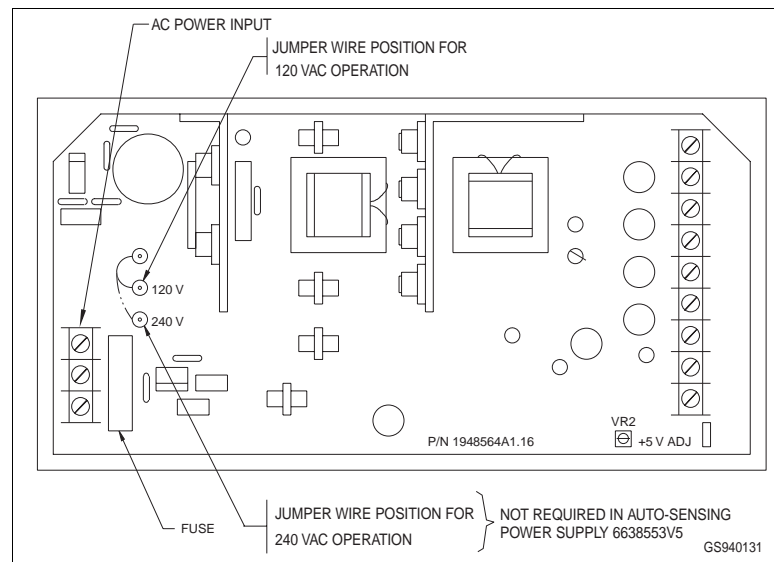

Figure 6-2. IIOIS12 Main Power Supply
8. If necessary, adjust the DC voltages of the power supply (Figure 6-2).
Figure 6-2 shows the IIOIS12 Main Power Supply.